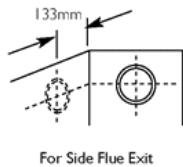

Fig. 25
3. Mark the position of the centre of the flue hole (rear exit) using the paper template supplied. For side flue exit, mark as shown (Fig. 25).